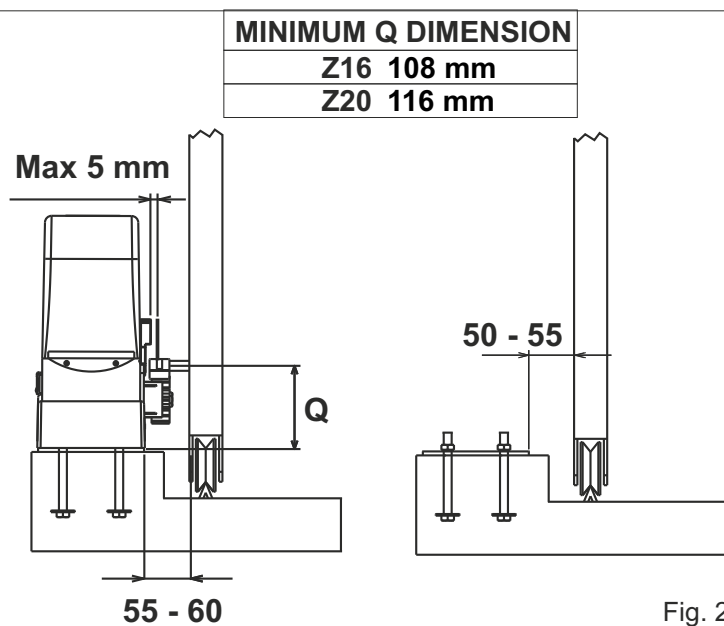
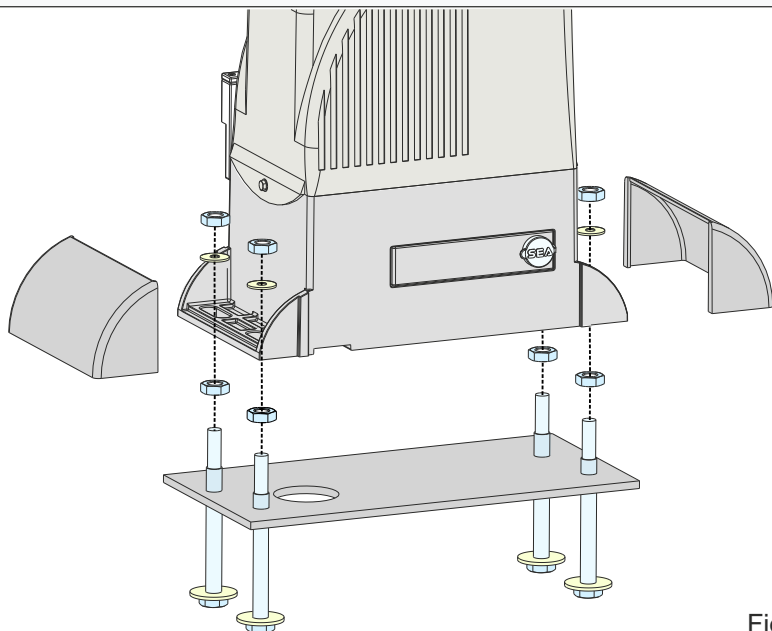
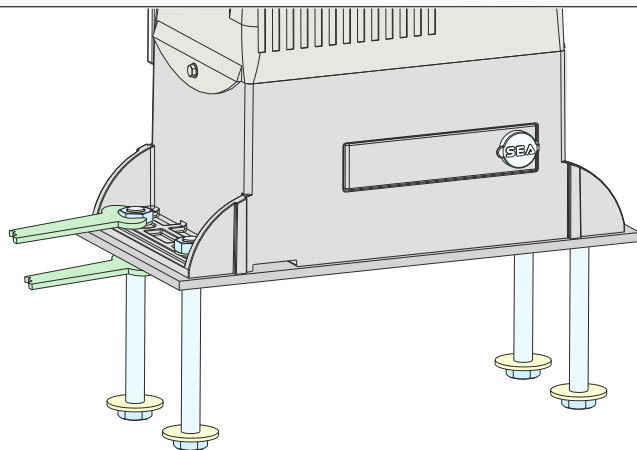

Fig. 2
Fig. 4
Fig. 5
**2.3.** Before concreting the plate, make sure that it is perfectly levelled and that the distance of 50-55 mm as shown in Fig. 2 is respected
**4.1.** Secure the gearmotor to the foundation plate using the supplied nuts and washers (Fig. 4), then adjust the lateral position and height (Fig. 5) to comply with the quotas mentioned in Fig. 2
**4.2.** Insert the two interlocking side covers (Fig. 4)